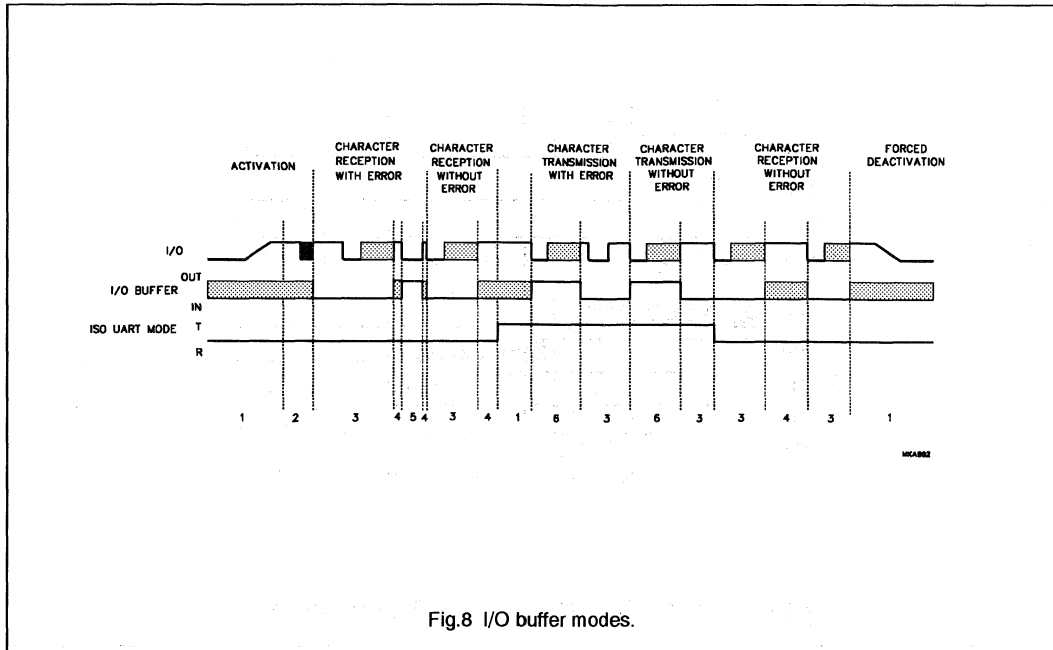

Fig.8 I/O buffer modes.
**I/O buffer modes** (see Fig.8)